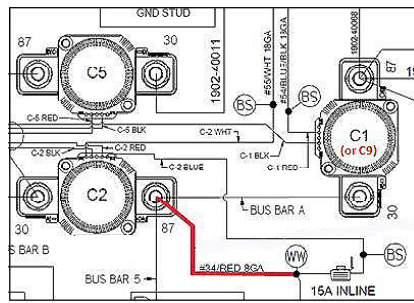

Figure 4 — JEMS 4 12V Supply Wire To C2
- If it is connected to the stud on contactor C2 (refer to Figure 4 or 5), proceed to Step 4 to perform the wiring modification.